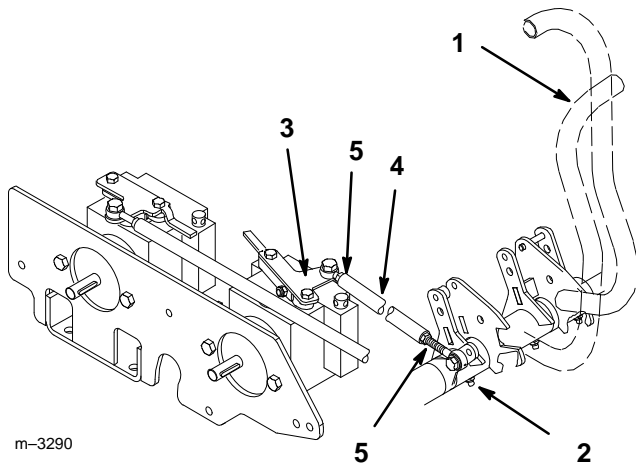

Figure 45
1. Loosen jam nuts on pump control rod (Fig. 45).
2. Push and firmly hold motion control lever against forward stop (Fig. 45).
3. Rotate pump control rod until pump control plate is in the full forward position (Fig. 45). Motion control lever will lift off forward stop.
4. Rotate control rod 1 turn, to lengthen rod, and tighten jam nuts (Fig. 45).